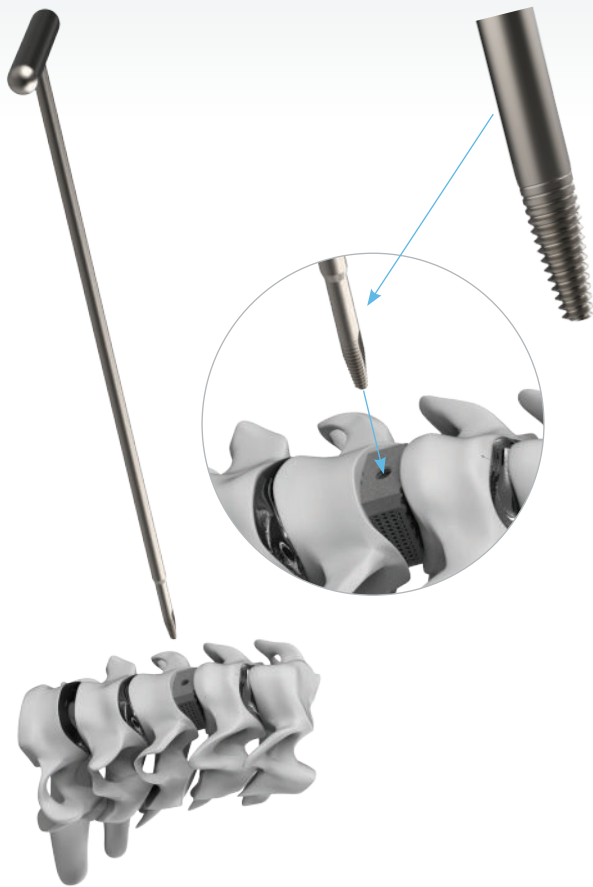

Figure 11
- Either the Inserter or Universal Removal Instrument may be used for Implant removal by attachment via clockwise rotation to the implant threads (Figure 11). Be careful to avoid pushing the implant posteriorly. Once the implant is firmly attached, remove the implant from the disc space.